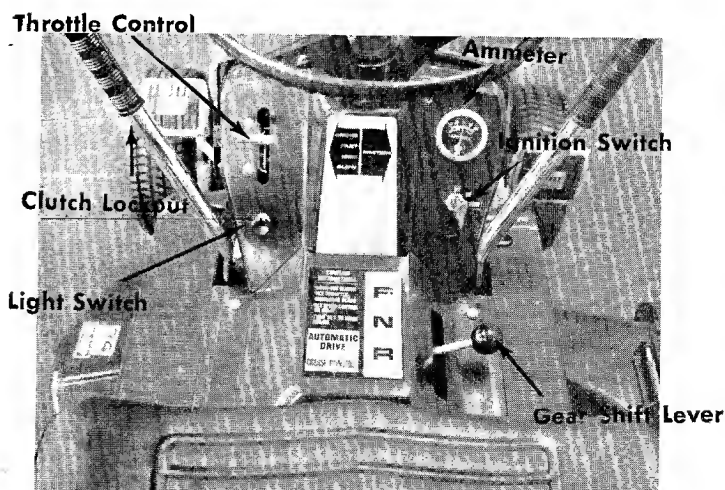

FIGURE 7. CONTROLS
**a. Throttle Control.** The throttle control is used to regulate the engine speed and choke the engine. The engine should be operated from  $\frac{3}{4}$  to full throttle when operating the cutting deck or snow thrower (optional). See figure 7.
**b. Gear Shift Lever.** The gear shift lever is used to shift into one of four **Forward Gears**, **NEUTRAL** or **REVERSE**. See figures 7 and 8.
h. **Ammeter. (Electric Start Model Only)** The ammeter registers the rate of battery charge or discharge. The ammeter should register on the plus side (+) when the engine is running the fast position until the battery is completely charged. With a fully charged battery or with the engine idling the ammeter will not show a charge. See figure 7.
i. **Light Switch. (Electric Start Only)** Pull the light switch out to turn on the lights. The lights will only operate when the engine is running. See figure 7.
**Electric Start.** See figure 7. Turn the key to the START position to start the engine. When the engine is running, let the key return to the ON position. To stop the engine, turn the key to the left to the OFF position and remove it to prevent accidental starting.
- Step 4. Set the throttle control in the CHOKE position. See figure 7.